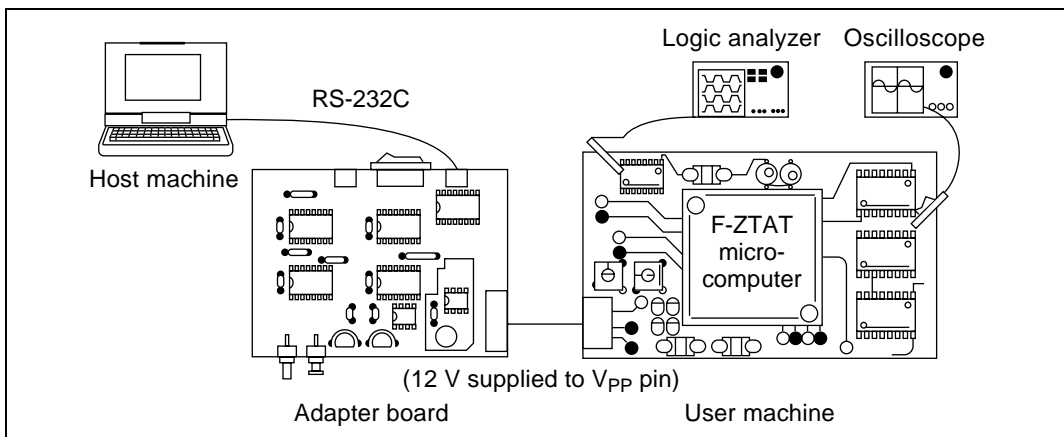

Figure 4.13 Application Program Startup
7. The F-ZTAT microcomputer in the user machine starts the application program when the V_{pp} pin has 12 V supplied to it (figure 4.13).